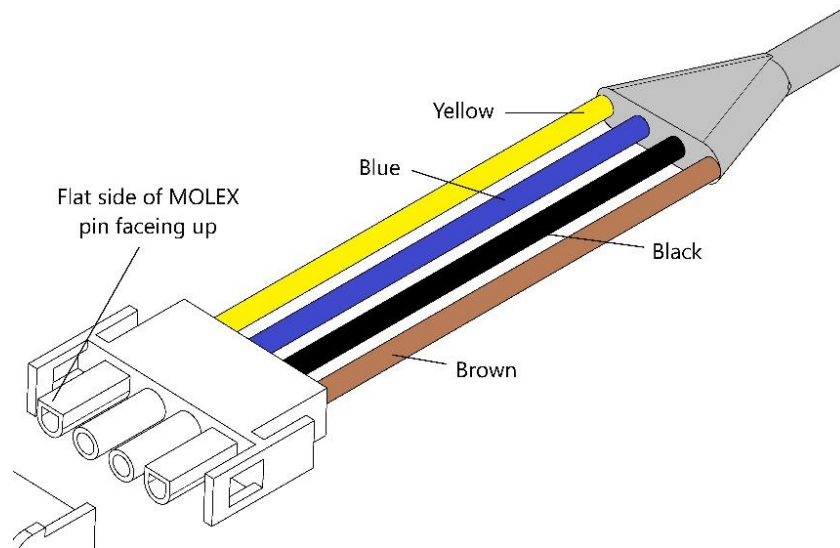

Figure 21
- 18.) Attach new 4 pin male MOLEX connector to fan motor wires. See Figure 21 for correct wire order.